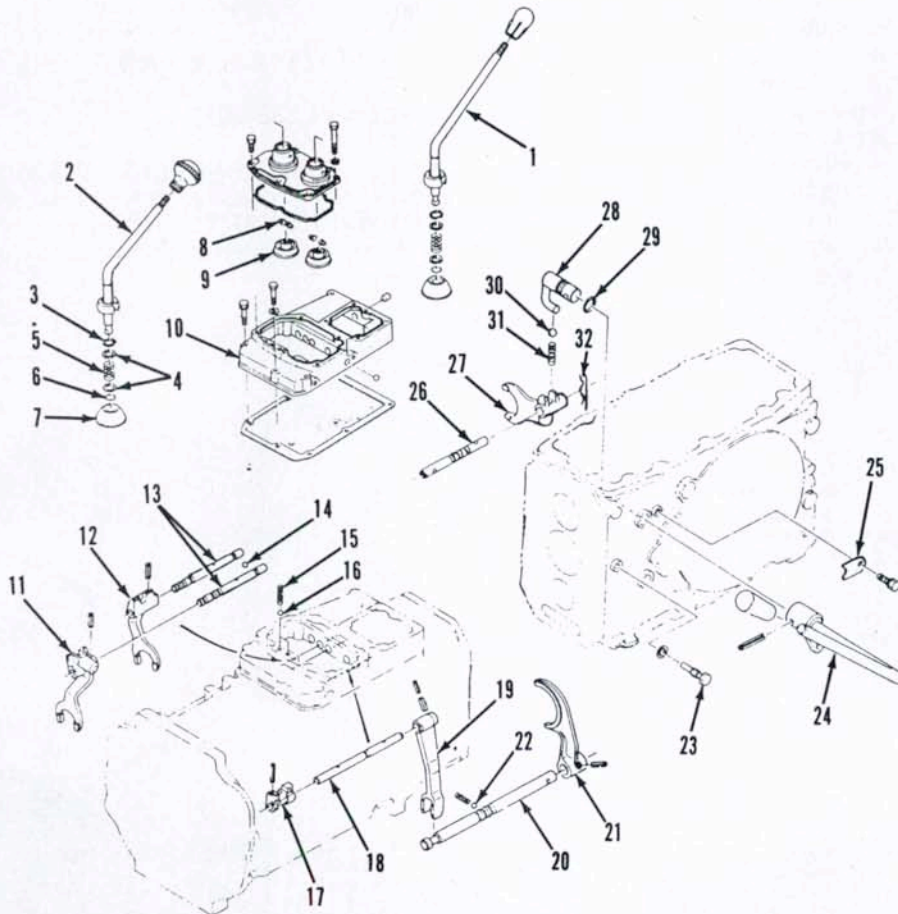

Fig. 107—Exploded view of shifter rails and shafts used on Models L235 and L275.
79. R&R AND OVERHAUL. Shift rails, forks and associated parts are shown in Fig. 107. Pto shift components are covered in paragraph 110.